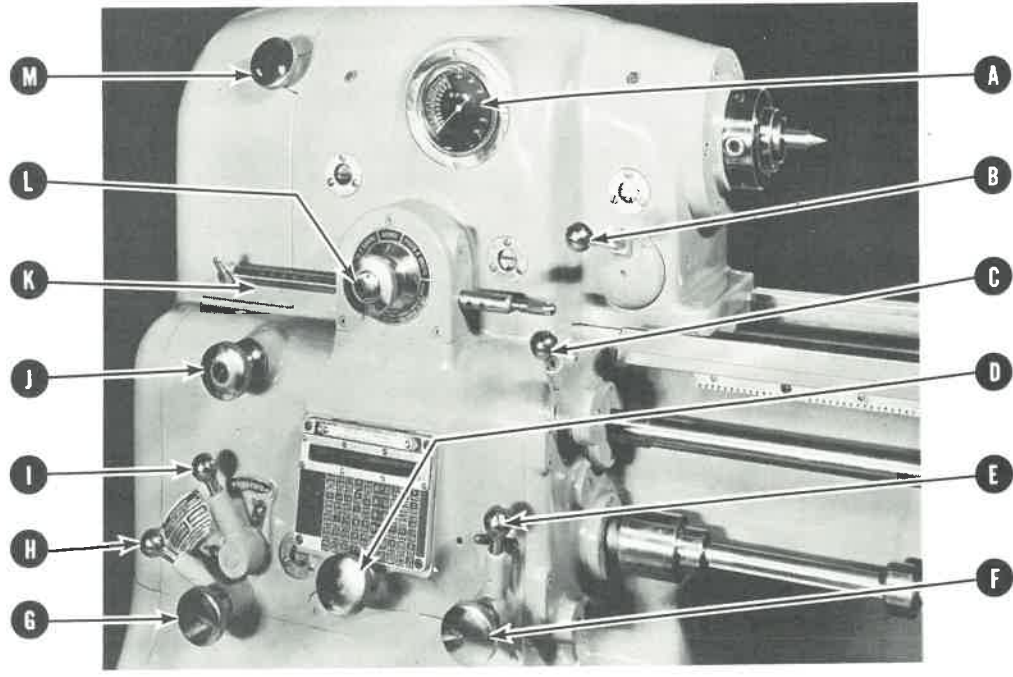
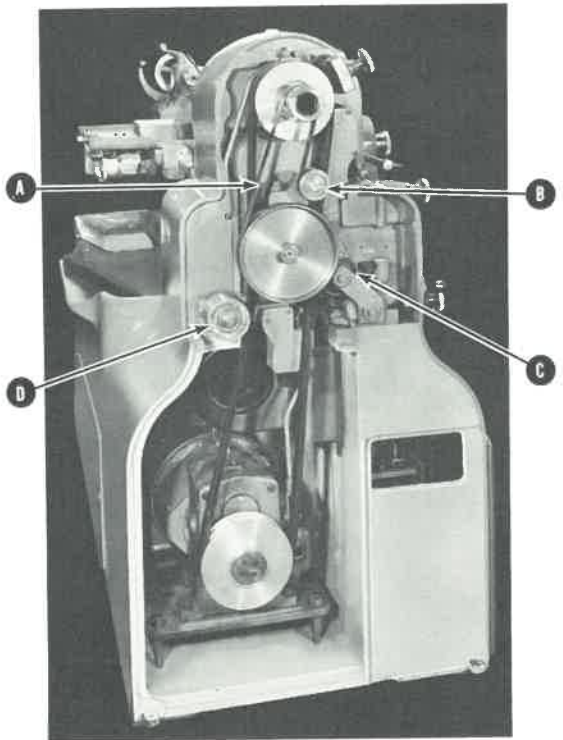
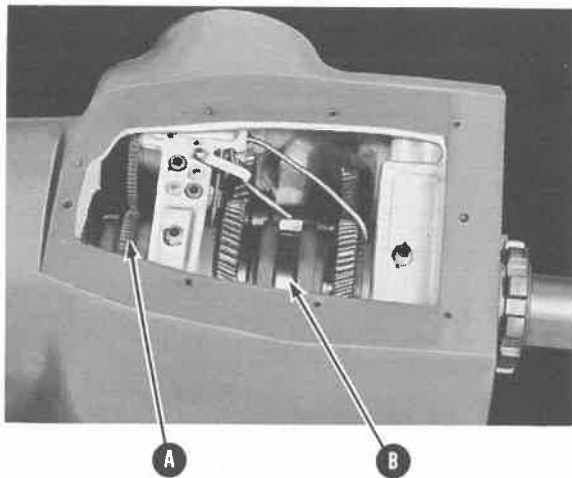

FIGURE 3. Headstock and Gear Box
FIGURE 4. Headstock End Covers Removed
FIGURE 5. Headstock, Top Cover Removed
The direct current main drive motor is mounted in the headstock end of the cabinet base. An integral part of the D. C. motor is a back gear unit. Lever (H) Figure 3 engages this unit. In the open belt position the motor sheave is driven directly by the motor armature. In the back gear position the armature drives the motor sheave thru a five to one reduction gear.
When the 10" EE is used for turning, facing or boring the only gearing rotating in the headstock is the tachometer drive (A) Figure 5. Power is supplied to the gear box for feed during these operations by the feed belt (A) shown in Figure 4. For threading operations knob (L) Figure 3 shifts jaw clutch (B) Figure 5 right or left, engaging the reverse gears which, in turn, drive the gearbox thru the end gear train for right or left hand threading. By using the reverse gearing in the headstock and the end gear train only for threading operations which are performed at relatively low spindle speeds, the accuracy of the gearing is preserved.
The tachometer (A) Figure 3 reads direct in spindle revolutions per minute.
Knob (M) Figure 3 is a spindle lock used to hold the headstock spindle stationary when tightening or loosening collets or step chucks. To lock the spindle, push knob in and rotate half a turn. To release rotate another half turn.
Micrometer stop bar (K) Figure 3, is notched for positioning in half inch increments. To adjust bar rotate handle on left end to up position, slide to new location and rotate handle to forward position. The detent will drop into the notch with a definite snap when properly positioned. Lever (B) Figure 3 is the spindle Start-Stop-Reverse lever as furnished on the standard machine. Lathes with electric leadscrew reverse have this lever on the right side of the apron.
Variation of spindle speed over the entire range is obtained by rotation of knob (G) Figure 3.
1. Pull out and lower tumbler lever (C) Figure 3.
2. Position indicator with knob (D) to the index plate column in which the required feed or thread appears.
4. Set A-B knob (J) and C-D-E knob (F) as shown on the index plate.